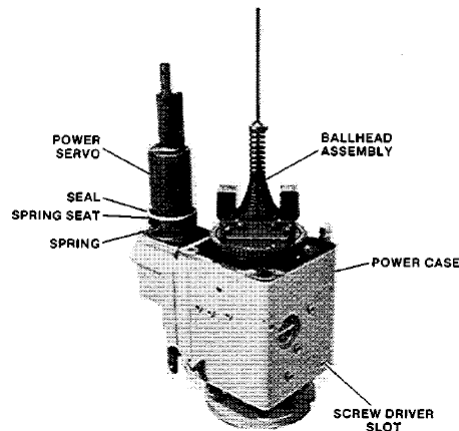

Figure 5-17. Power Case and Power Servo
- 19. Lift ballhead assembly out of power case (Figure 5-17).
20. Remove spring, spring seat, and seal (Figure 5-17).
24. Turn power case upside down, remove 8 screws and lift off base (Figure 5-17).